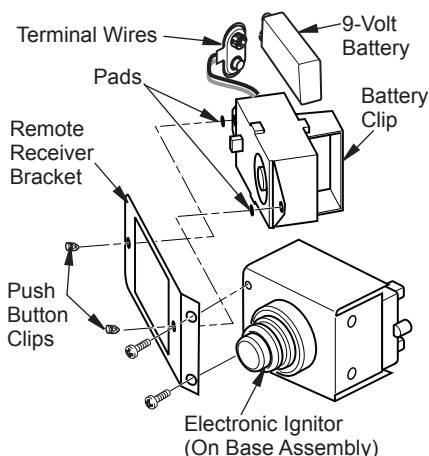

Figure 20 - Installing Remote Receiver Bracket
6. Install receiver bracket to base with Phillips screws provided in hardware kit as shown in Figure 20.
8. Install remote receiver into receiver bracket using pads and push button clips provided with receiver (see Figure 20).